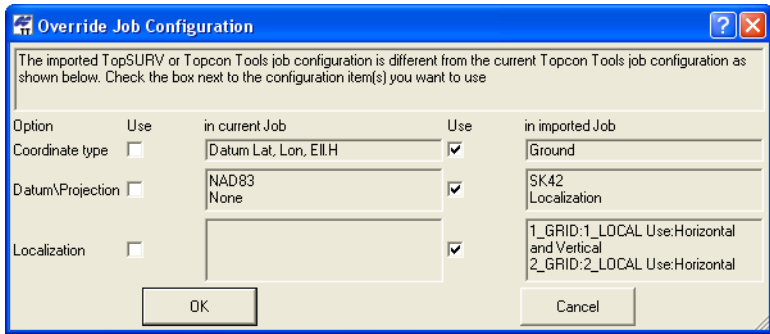

Figure 3-21. Configuration Override Notice – Example
If the imported Topcon Tools job configuration is different from the current Topcon Tools job configuration, the **Override Job Configuration** dialog box displays. Select the configuration to override and click **OK** (Figure 3-21).
1. To import a Topcon XML file on a computer into Topcon Tools, with a job open, either click **Job ► Import**, press **F3**, or click the **Import** button on the Toolbar (Figure 3-21 on page 3-27).
5. Click **Open** to import the file (Figure 3-21).